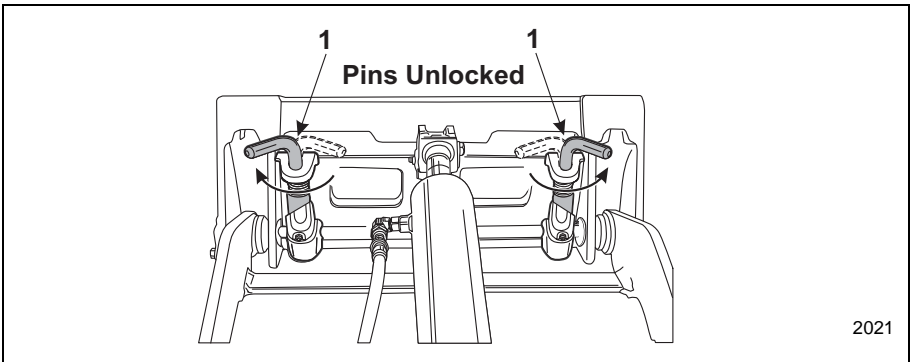
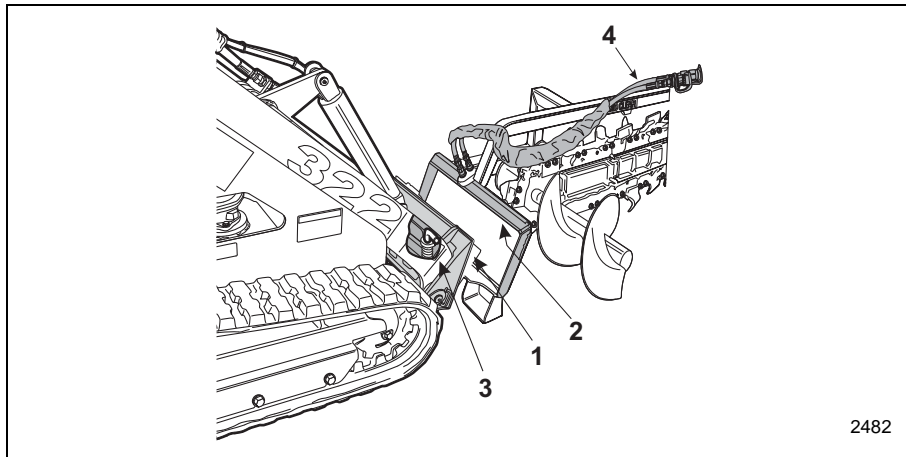

Figure 3-31 Attachment Locks in Unlocked Position
Figure 3-32 Hydraulically Powered Attachment Installation
NOTICE: Make sure that both of the attachment lock pins (Item 1, Figure 3-31 and Item 3, Figure 3-32) are in the “unlocked” position.
3. Slowly drive towards the attachment and align the top edge of the male mounting plate (Item 1, Figure 3-32) and the upper lip of the female attachment mounting plate (Item 2, Figure 3-32).
NOTICE: Make sure to position the attachments hydraulic hoses (Item 4, Figure 3-32) so that they are not damaged during the installation process. Tuck the upper edge of the male mounting plate into the upper lip of the female attachment mounting plate.